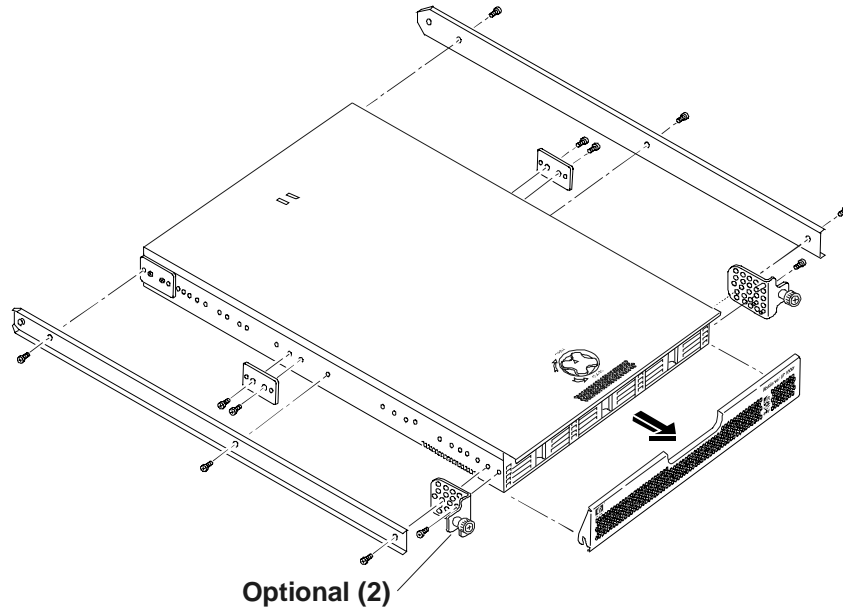

Figure 7-3. Removing Existing Hardware
2. Remove the front bezel on the Netserver chassis, if not already removed. See Figure 7-3.
3. Remove the screws holding the inner-rails and spacers on each side of the chassis. See Figure 7-3.
4. If mounting flush mount brackets, remove the screws holding the front mounting brackets to each side of the chassis. See Figure 7-3.
original front mounting brackets to provide a connection for the front bezel. See Figure 7-3.